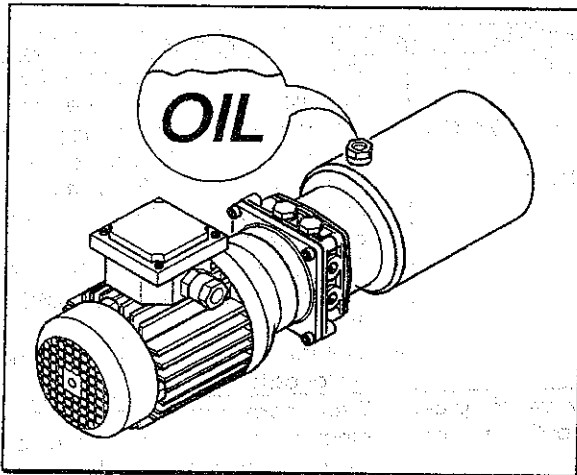

Fig.55
3. Check hydraulic oil level once a month (Fig.55).